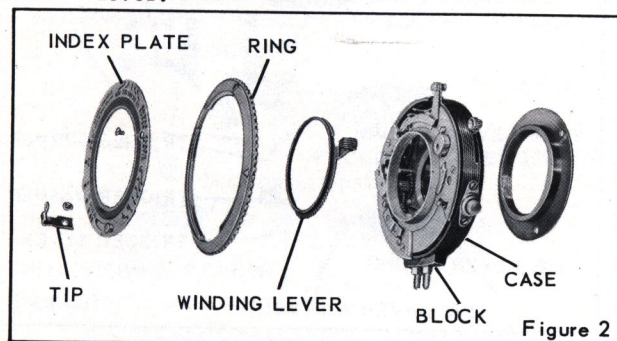
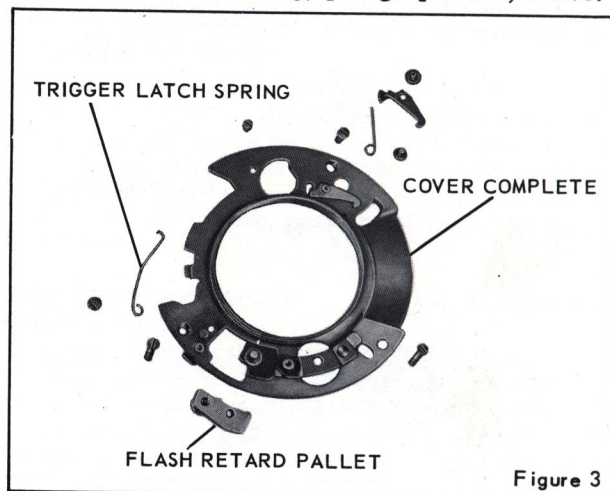
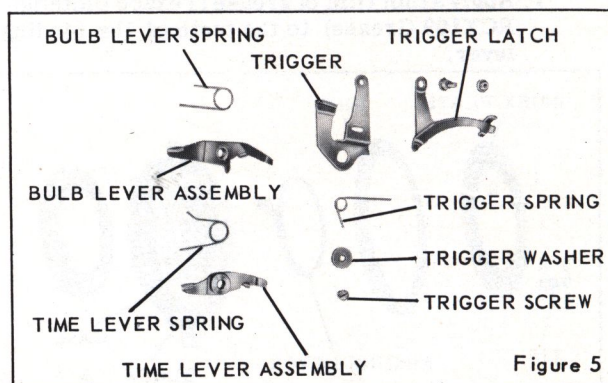

Figure 2
Figure 3
Figure 5
2. Diaphragm pointer TIP, figure 2.
1. Speed control ring, with shutter in tripped position. Be sure the projecting lug on the BULB LEVER ASSEMBLY, figure 5, the studs on the retarding SECTOR WITH STUD, figure 6, and the PALLET BRACKET with stud assembly are resting against the inside edge of the speed control ring and are not underneath the ring.
CAUTION: Do not touch the TRIGGER LATCH, figure 5, as it may release the winding gear spring tension.
Trip the shutter and lightly hold the winding lever down around the central collar on the cover. As the shutter is tripped, the end of the latch should fall into the slot on the cover. If it does not, add more tension on the TRIGGER LATCH SPRING, figure 3. Check for a bind between the trigger latch and the TRIGGER, figure 5, at the point of attachment. The winding lever should contact the trigger latch, push the latch out of the slot in the cover, and open the shutter blades. After the shutter has been tripped, the latch should return to a position where it is resting on the ledge just above the small slot in the cover.
3. TRIGGER LATCH SPRING, figure 3.
4. Lift up the loose end of the TRIGGER LATCH, figure 5, sufficiently to clear the COVER COMPLETE, figure 3. Move the loose end of the latch until it is clear of the CASE, figure 2.
6. FLASH RETARD PALLET assembly, figure 3.
5. TRIGGER SCREW, figure 5, TRIGGER SPRING, and TRIGGER WASHER.